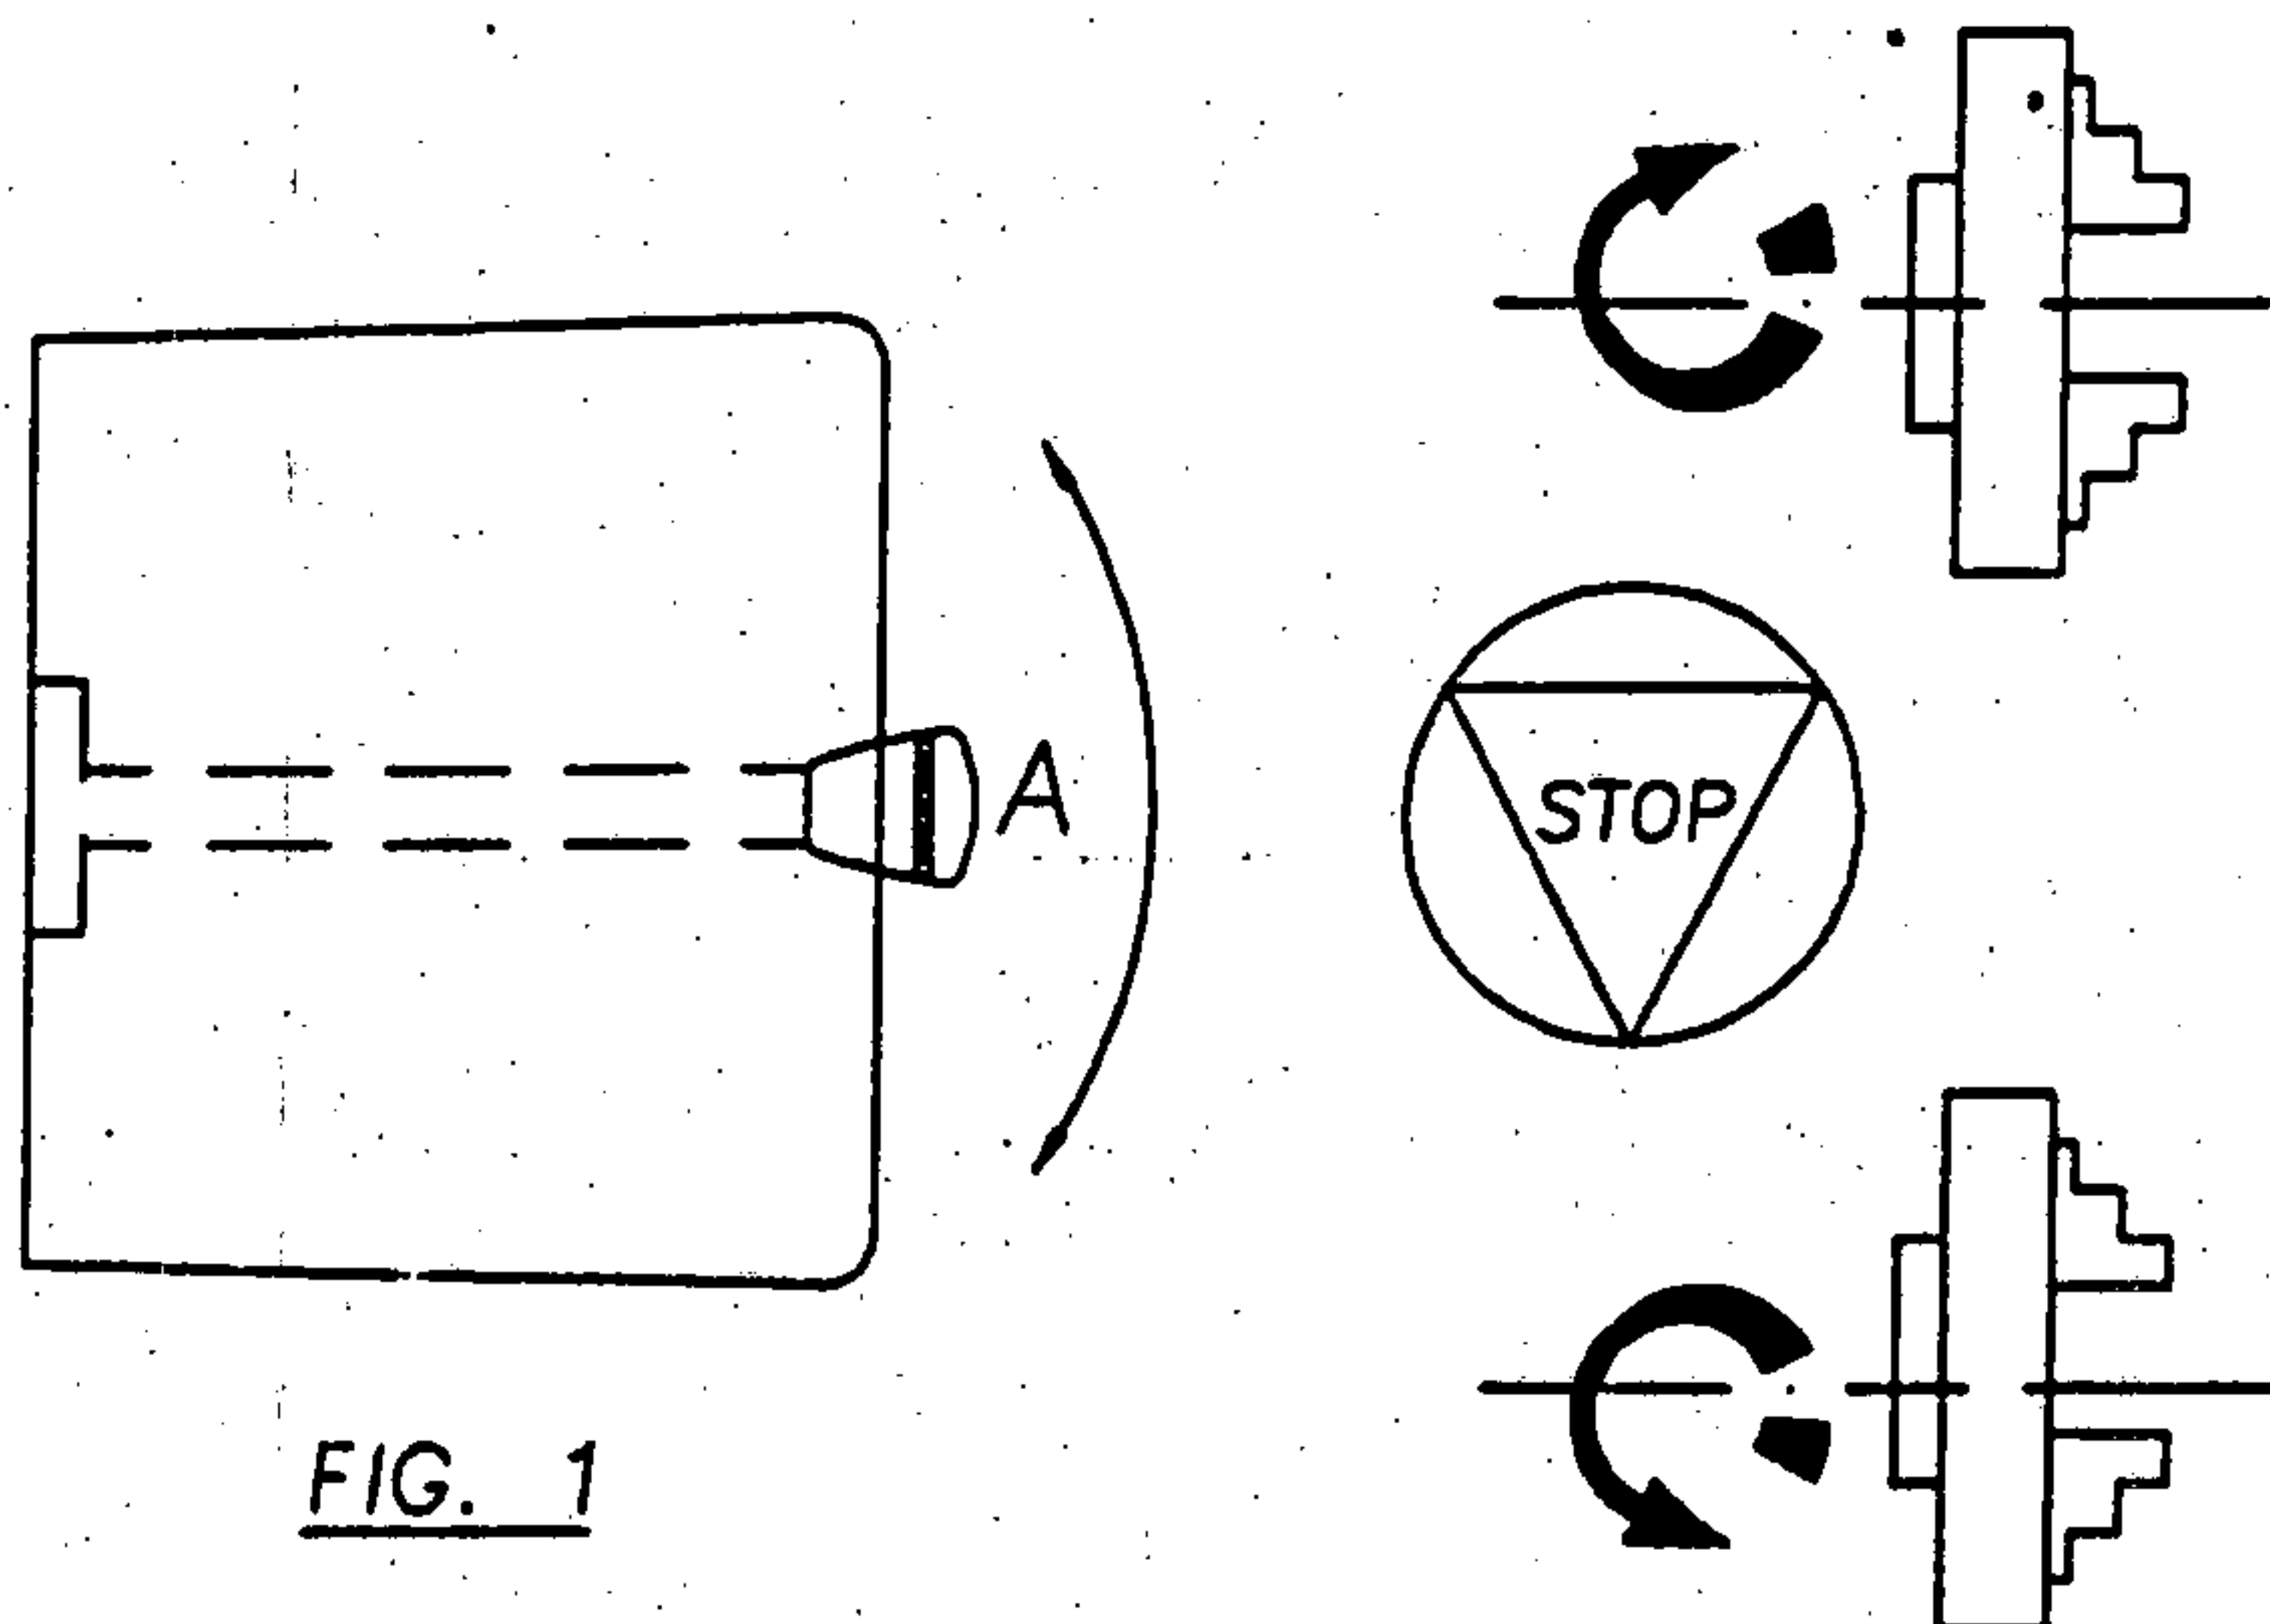

FIG. 1
Move the handle (A) up or down depending on the direction of rotation required, as indicated in Fig. 1